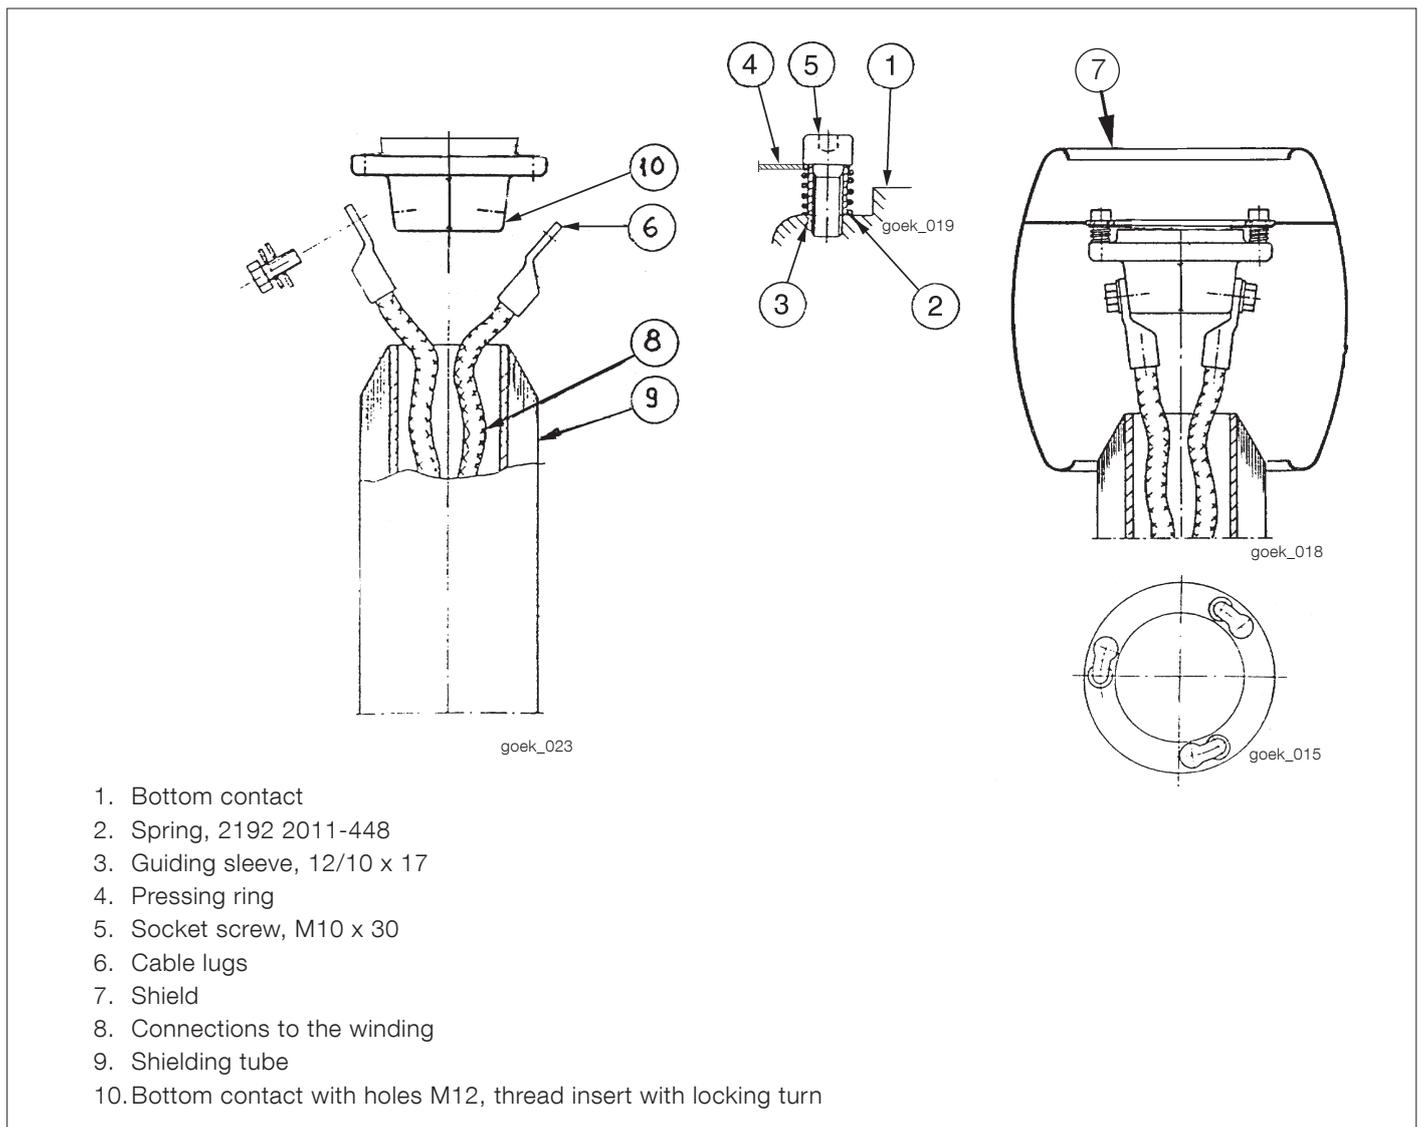

Fig. 19. Connecting to bottom contact and mounting of shield.
7. Try to turn the shield back somewhat to check that the heads of the screws are in the locking position, see Fig. 19.